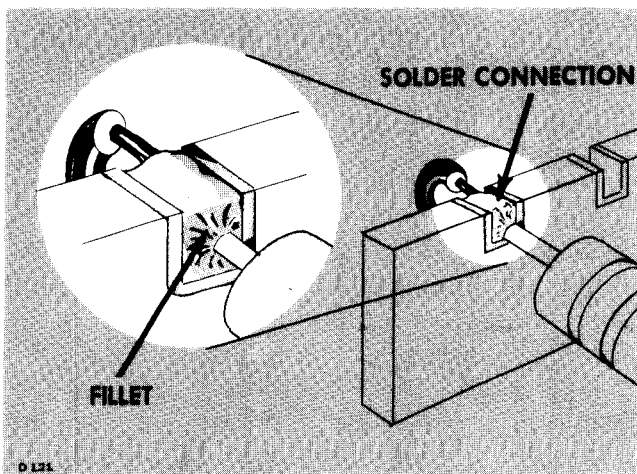
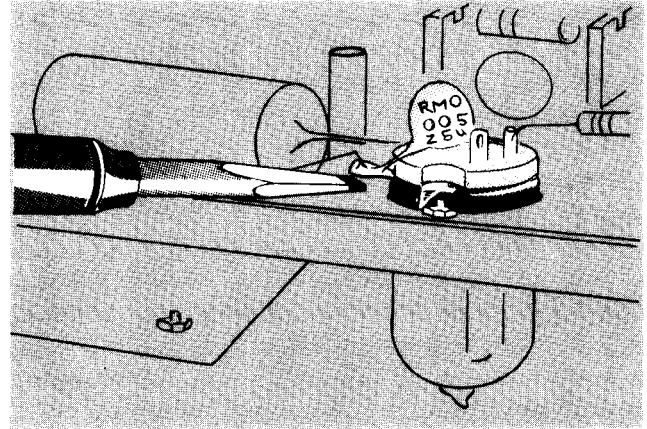

Fig. 4-3. A slight fillet of solder is formed around the wire when heat is applied correctly.
Fig. 4-4. Soldering to a terminal. Note the slight fillet of solder--exaggerated for clarity--formed around the wire.
6. Do not attempt to fill the notch on the strip with solder; instead, apply only enough solder to cover the wires adequately, and to form a slight fillet on the wire as shown in Fig. 4-3.
iron as outlined above, but tin with ordinary tin-lead solder. Apply the iron to the part to be soldered as shown in Fig. 4-4. Use only enough heat to allow the solder to flow freely along the wire so that a slight fillet will be formed as shown in Fig. 4-3.